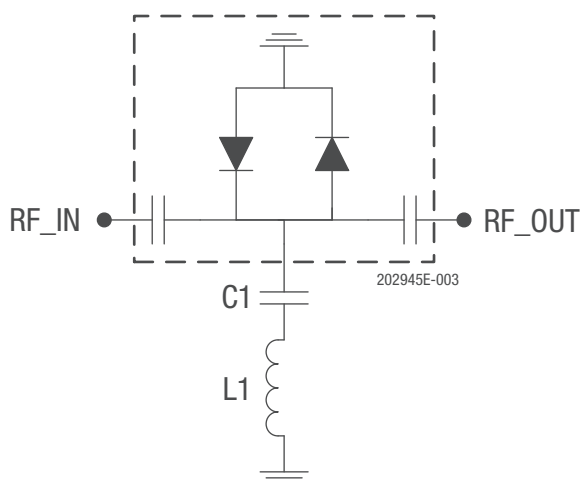

**Figure 3. SKY16602-632LF Schematic
The module may be RF tuned for optional RF match and insertion loss centered at a target frequency within its normal band of operation. This is done with the use of external surface mount components. The schematic diagram in Figure 3 shows the SKY16602-632LF limiter with a shunt connected capacitor and inductor tuned for 2.45 GHz. The bill of materials for the 2.45 GHz tuned circuit is shown in Table 4. Electrical specifications for the 2.45 GHz tuned limiter module are provided in Table 5.
**Table 5. SKY16602-632LF Electrical Specifications (Tuned to 2.45 GHz Operation, Reference Figure 3)